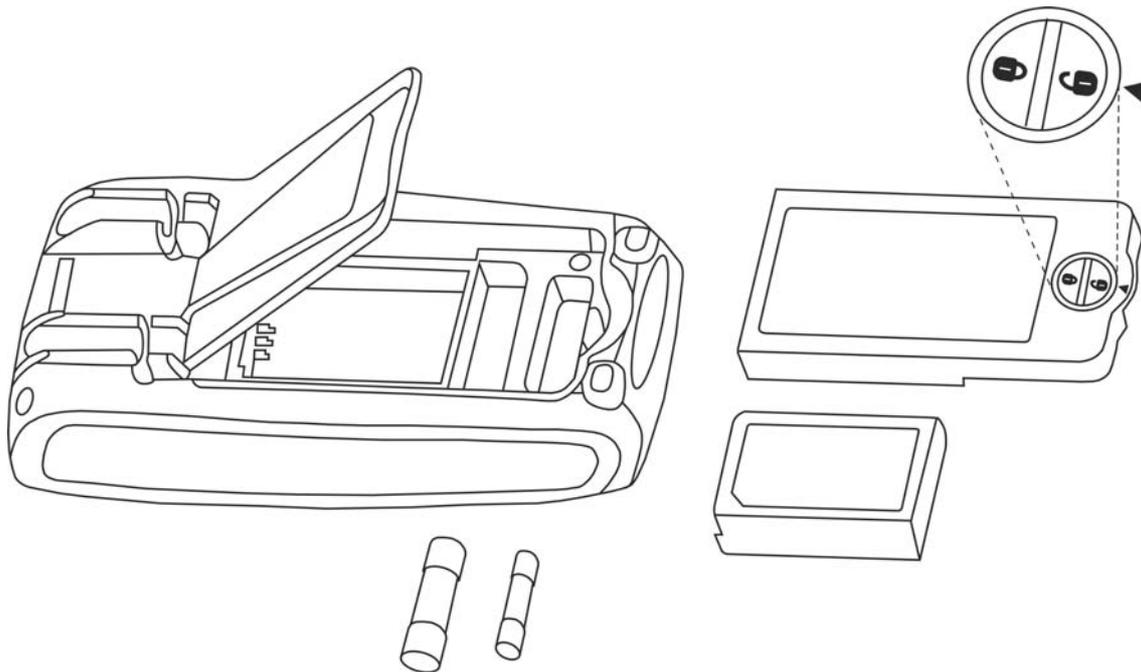

Fig. 32: Replacement of internal fuses
2. Turn the fastening screw of the battery compartment cover from position “” to position “” and remove it (see Fig. 32)